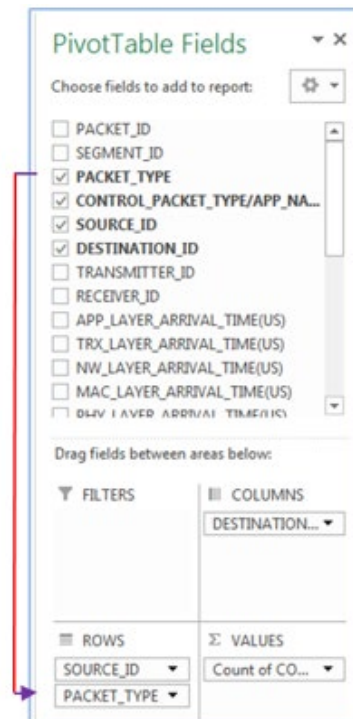

Figure 8-45: Select the PACKET_TYPE Check Box and drag it to the ROWS fields
- If you wish to know how many Data and how many were control packets then, check the PACKET_TYPE and drag it to the ROWS field as shown below Figure 8-45.